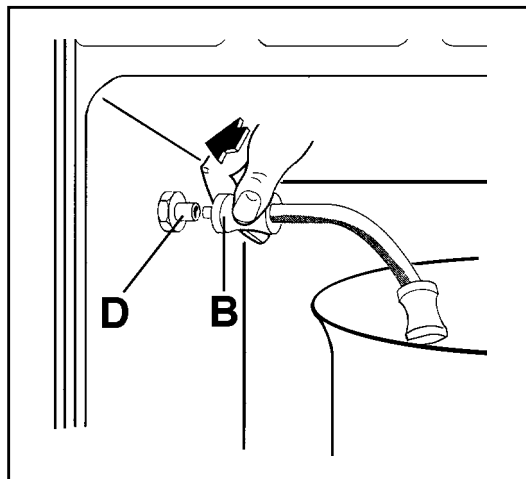

Fig. 18
- Fit the connector "B" to one of the edges of the exhaust-pipe, then insert the connector "B" into the steam injector (Figure 18, letter "D"). Place the free pipe edge in a vessel, to collect the limestone residues.